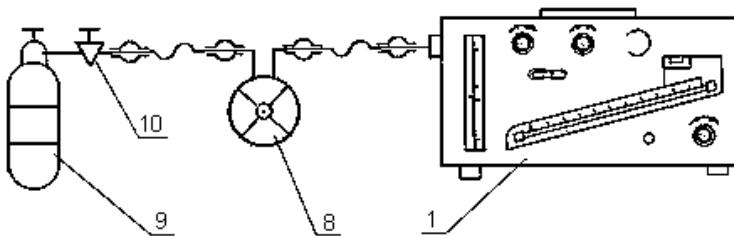

Fig. 12. A test set-up for defining of the flowmeter error:
10.4.8 To define main error of the flowmeter, establish the test set-up as shown in Fig. 12, set the «КЛАПАН» lever into «ЗАКР.» position and KP handwheel into «РОМЕТР» position, КЗ handwheel into «НАГНЕТ.» position. The pipe connection of the pressure gauge flowmeter should be opened. Define pressure drops by the Instrument charter which correspond to the following oxygen flow rates: 0,6; 1,0; 1,3; 1-5; 2,0 l/min, and correct it for the given heat condition multiplying by coefficient β , as was said above (see item 4.2.8).